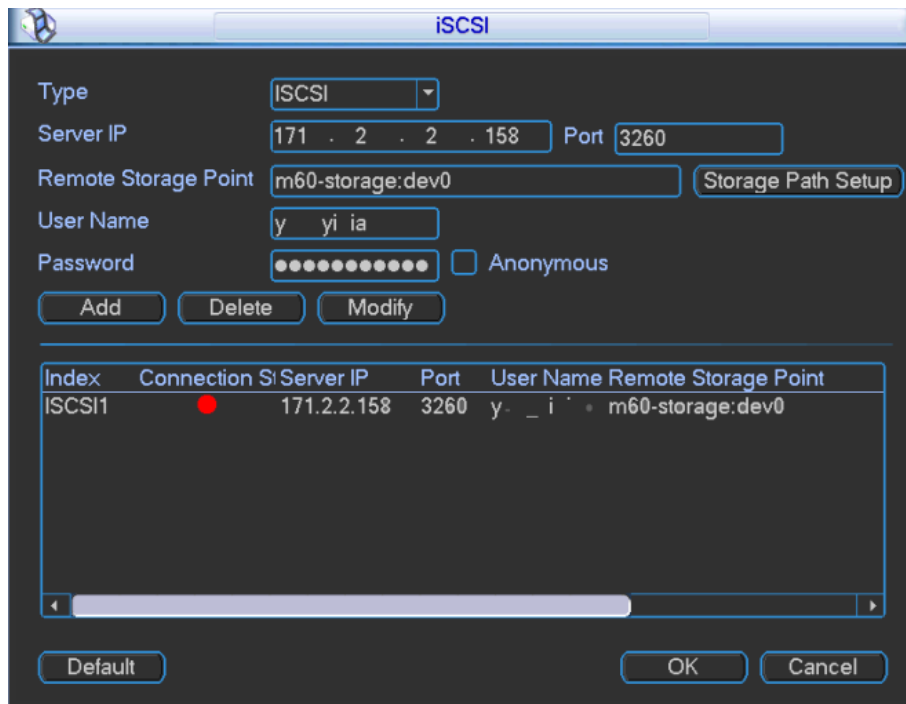

Figure 3-50
- Step 6 Click “OK” to complete configuration. The list displays the added iSCSI server, as shown in Figure 3-50.